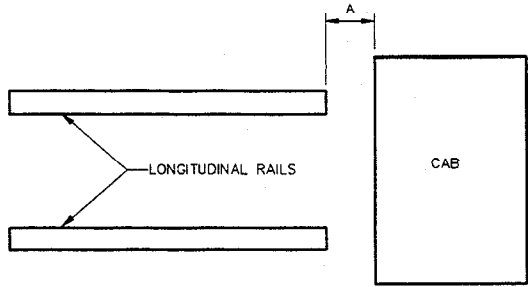

Figure 1 - Longitudinal Rail Position
- e. Measure and note distance A, shown in Figure 1, between rear of cab and front of longitudinal chassis rails for ease of refitting new rails.